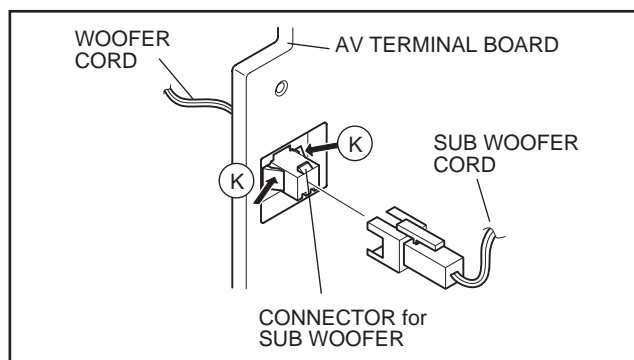

Fig.4
- (4) After removing the 1 claw [K] on the connector for SUB WOOFERS pull out the connector for SUB WOOFER. (Fig. 4)